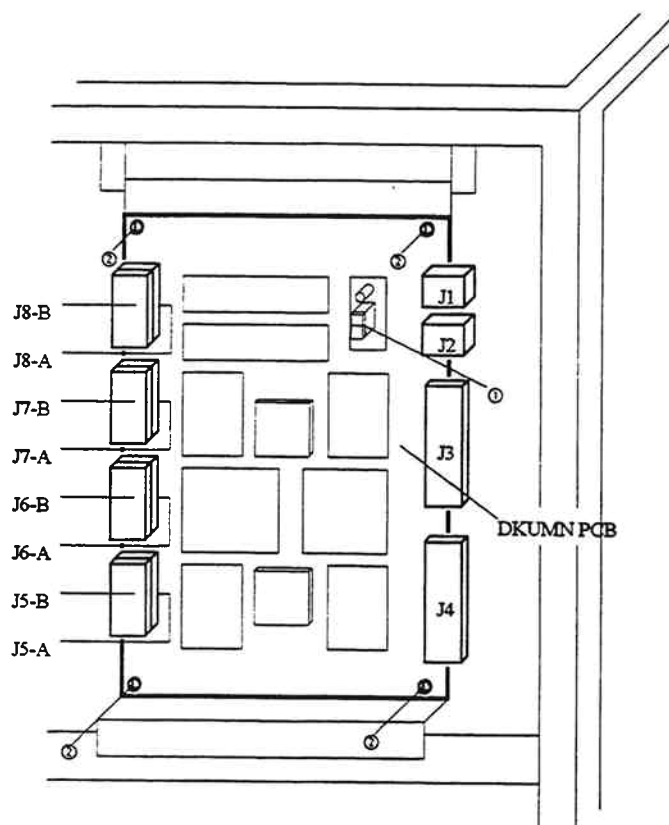

Fig. T18-1 Replacement of DKUMN PCB
1. The following figure(Fig. T18-1) and table(Table T18-1) show the correct way to replace the DKUMN PCB.
- Set Enable/Disable Switch① to Disable on the DKUMN PCB.
- Remove the four screws② or Latches.
- Fasten the four screws② and connect all the cables.